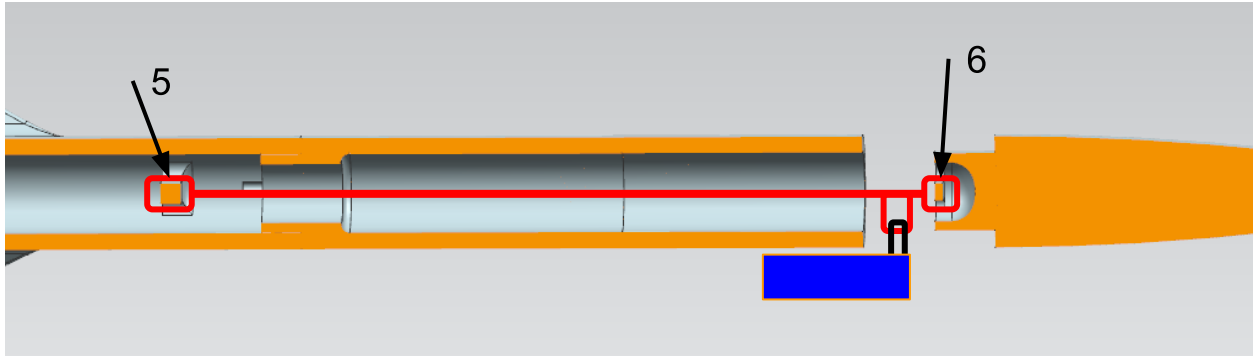

Figure 6: Shock Cord Attachment Nose Cone Cross Section
5. Use a slip knot or 2 half hitches to tie the Shock Cord (RED) around the internal shock mount as shown in Figure 6. It is recommended to use a nut tied to the end of the shock cord to aid in feeding through the rocket.